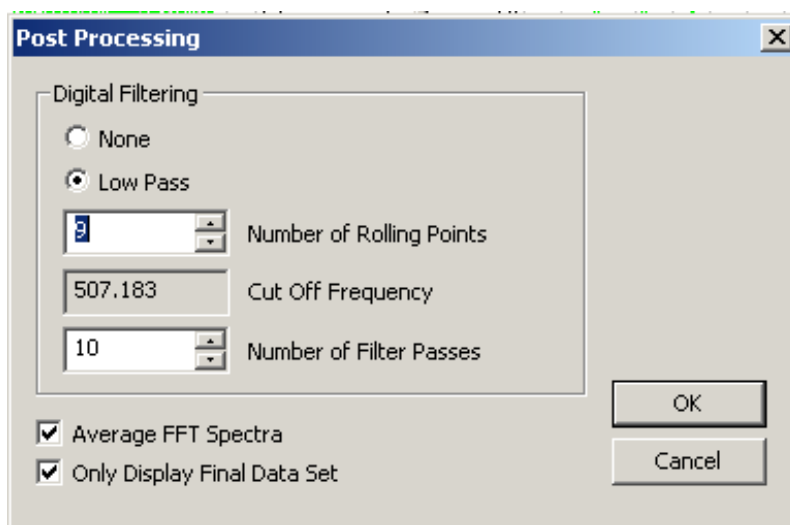

Figure 20: The Spectramag-6 Post Processing window.
3. The selected files open, showing the **Post Processing** window as in **Figure 20**.